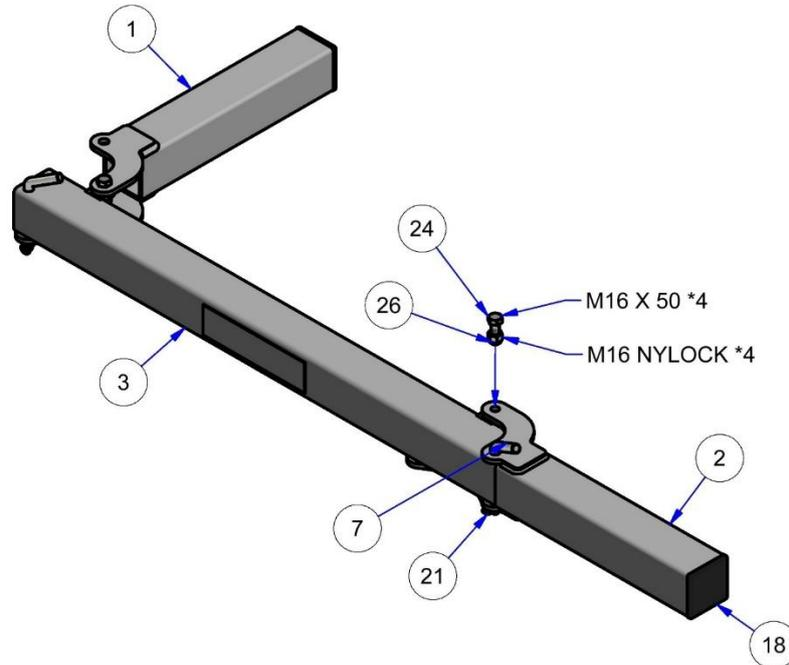

Figure 19 (Underrun Bar Assembly)
2. Bolt Items 1 and 2 onto the underrun bar centre (Item 3) using the four M16 nuts and bolts as shown in Figure 19, ensuring Items 1 and 2 can pivot freely